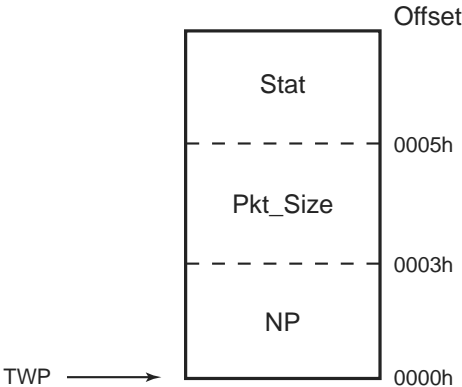

Figure 62. Descriptor Table Entries
The descriptor table contains three entries: the next pointer (NP), the packet size (Pkt_Size) and the packet status (Stat), as shown in Figure 62.